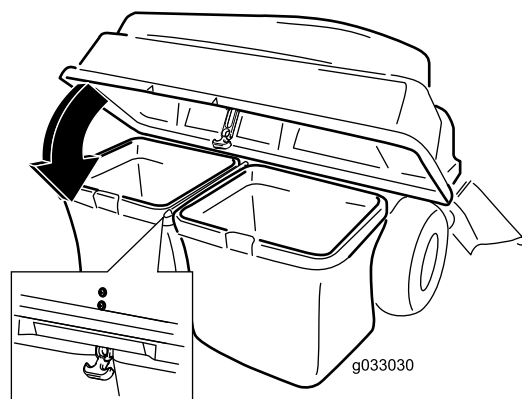

Figure 15
5. Lower the bagger top onto the bags (Figure 15).
6. Secure the hood with the latch (Figure 15).